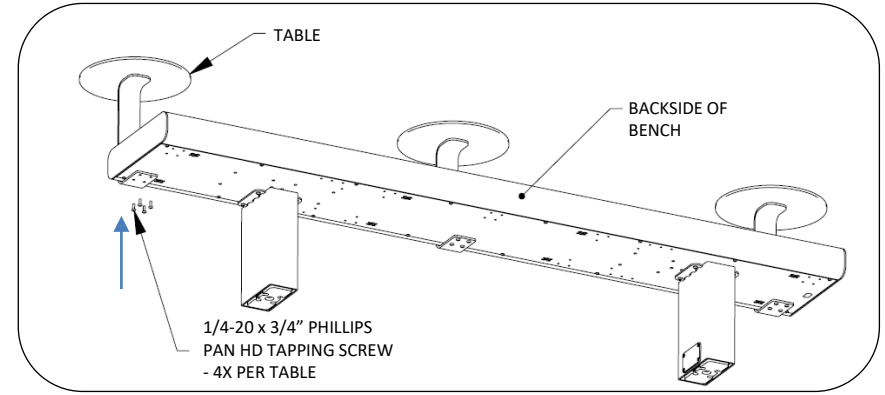

Fig. 8 – attach tables
9. Attach tables, if specified, see Fig. 8. Tighten until snug, do not overtighten.